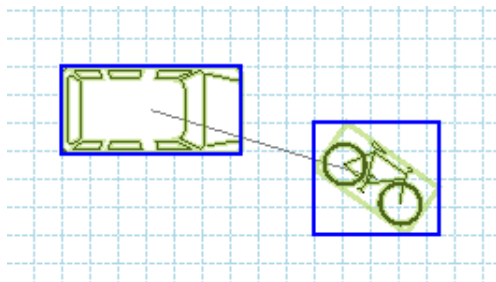

Figure 150. Drag to Second Symbol
3. Drag to the second symbol until a second blue box displays, as shown in Figure 150. When the mouse button is released, the connecting line displays.